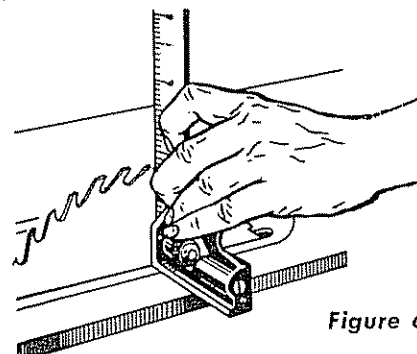

Figure 6
- (1) With the saw blade in deepest cut position, check the tilt position of the saw blade by attempting to rotate the tilt hand-wheel clockwise until it will rotate no farther.
- (2) Place a square on the table top and against saw blade. (See figure 6.) The blade should be at exactly 90 degrees (perpendicular) to the table-top surface. (Make sure the square is resting against the flat surface of blade and is not being held away by the "tooth-set" of the blade.)
(5) Rotate the tilt hand-wheel clockwise until the saw blade is perpendicular to the saw table — measuring it with the square, as shown in figure 6.
(7) Rotate the tilt hand-wheel counterclockwise approximately three turns, then rotate it clockwise until it stops. Check the saw again with the square as shown in figure 6. If the adjustment is correct (blade square with table surface), tighten the set screw in the stop collar securely.